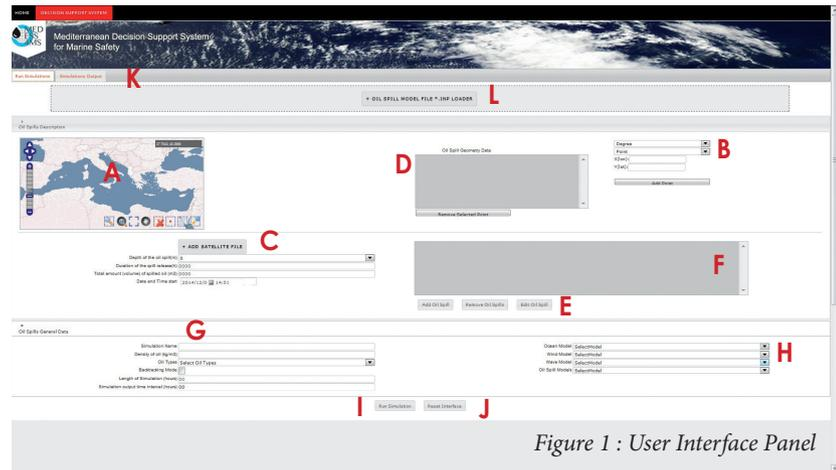

Figure 1 : User Interface Panel
1. Map view **A** (Figure 1): select the “Point”  or “Polygon”  button to draw the oil spill geometry on the map. The “Modify Oil Spill Geometry” button  can be used to edit an existing vector object (drag the  pivots visualized on the geometry to modify it). Use  to delete the geometry.
2. Form **B** (Figure 1): manually specify a point or polygon by entering the coordinates in the X (Latitude) and Y (Longitude) text fields on the right and clicking on the “Add Point” button.
3. Satellite files **C** (Figure 1): use the “Add Satellite File” button to open the file browser and select the input file (GML file containing the oil slick data which will be drawn on the map).
When the above steps have been completed, click on the “Add Oil Spill” button. **E** (Figure 1).
To add multiple points or multiple polygons, please insert again point or polygon (Figure 1, A or B) and relative oil spill specifications.
Note 2: once the user has entered the geometry, the corresponding coordinates can be also modified by directly typing the data into the “Oil Spill Geometry Data Box” at the right of the panel D (Figure 1).
Oil spill general data: G (Figure 1)
Use the "Run Simulation" button I (Figure 1) to submit the oil spill model input data and start the Simulation on the backend server.
Use the "Reset Interface" button J (Figure 1) to restore the original default settings for the DSS interface.
Please note that simulations are queued for execution in the backend. In order to see the processing status of a simulation, the user must switch to the "Simulations Output" tab K (Figure 1).
If you want to re-run a simulation that you already performed with the MEDESS-4MS system, you can upload the .inp file (that you can download from the Simulation Output window, see next section) by using the button at the top of the page L (Figure 1).